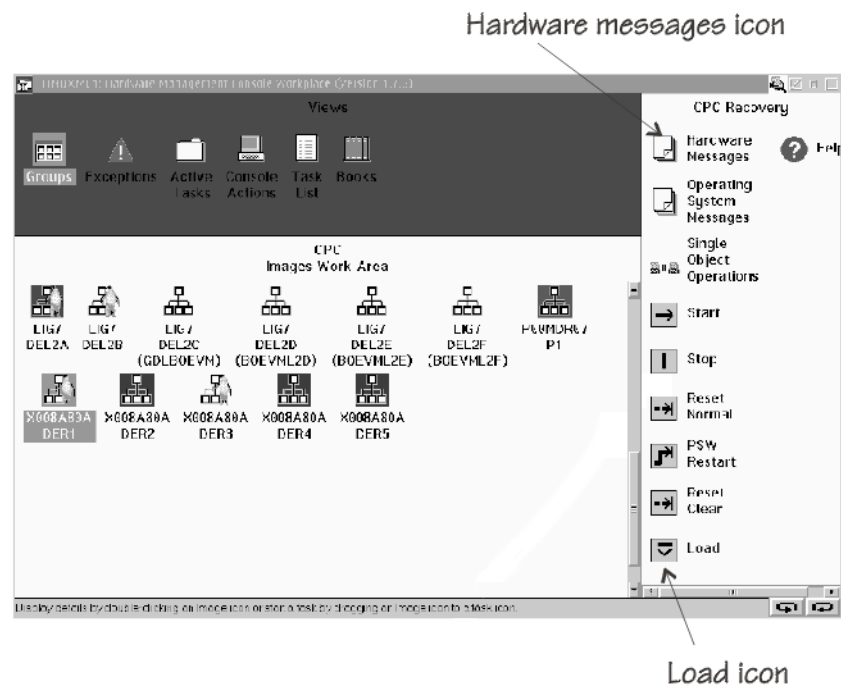

Figure 56. CPC Images Work Area on the HMC
2. Click the Images icon in the “Groups Work Area” to display the “CPC Images Work Area” with all defined images (Figure 56).